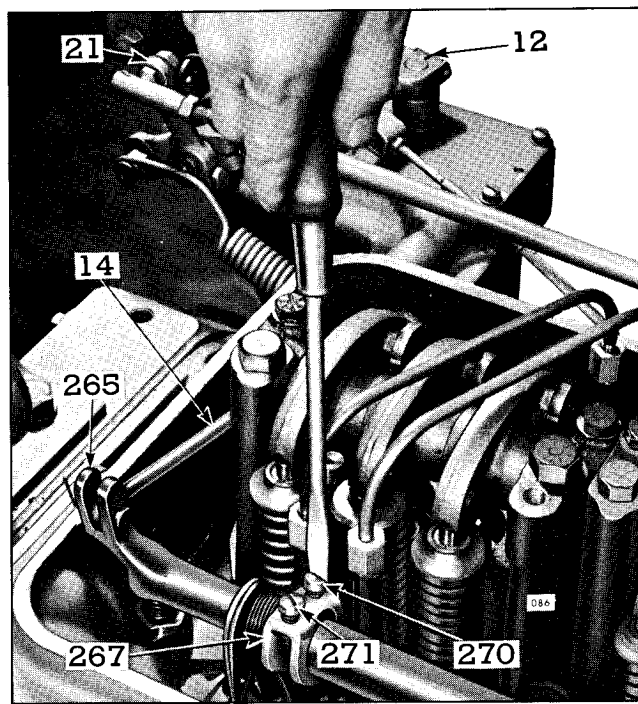

Fig. 2 - Positioning No. 6 Injector Rack Control Lever
1. Refer to Fig. 2 and disconnect any linkage attached to control lever (12).
3. Loosen inner and outer adjusting screws (270) and (271), Fig. 2, on each injector rack control lever (267). Be sure all injector rack control levers are free on the injector control tube.
4. Place governor control lever (12) in the RUN position and speed control lever (21) in the FULL FUEL position. Turn inner adjusting screw (270) down until a slight movement of the injector control tube lever (265) is observed. Turn outer adjusting screw (271) down until it bottoms lightly on the injector control tube. Then alternately tighten both the inner and outer adjusting screws until tight.